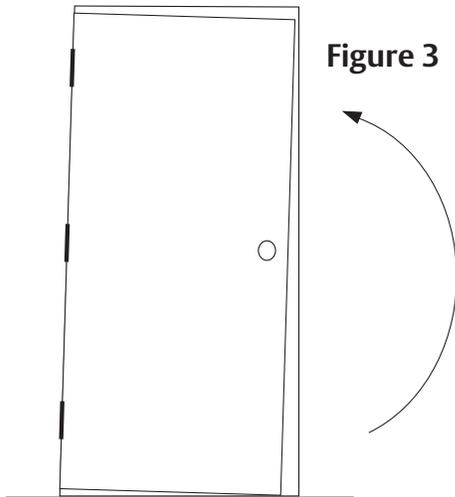

Figure 3
Frame openings which are wider at the base than at the head will cause wider clearance at the lower lock edge and at the top as shown in Figure 3. This condition can be improved by placing shim (B) between the jamb and door hinge reinforcings respectively at the bottom hinge leaves.